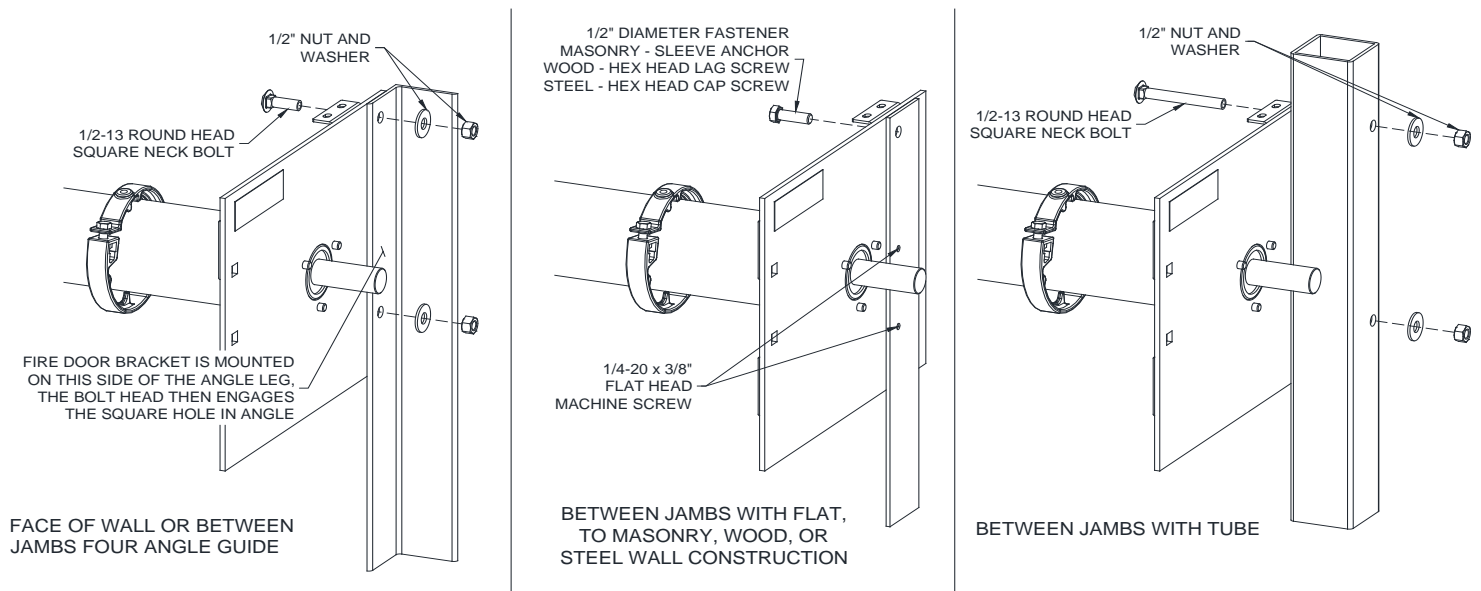

Figure 6.5 – Bracket Mounting Configurations and Hardware
6. Insert the specified bolts and snug tighten, see **Figure 6.5**.